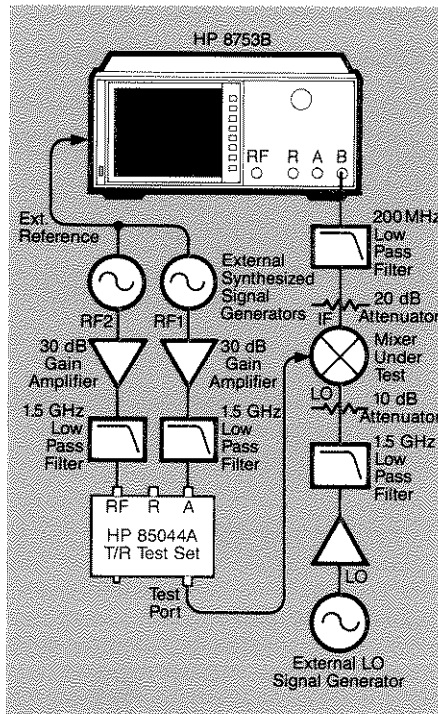

Figure 16. Block diagram for a two-tone third order intermodulation distortion (IMD) measurement.
Figure 16 shows a block diagram for a third order IMD measurement made with the HP 8753B. The filters, attenuators and amplifiers provide isolation and remove unwanted signals from the system. These are essential to accurate measurements, because signal levels as low as 60 dBc can degrade third order IMD measurements.
7. Connect the instruments as shown in figure 16, tying all time bases together (EXT REF). To minimize the effect of system distortion, it is suggested that attenuation at the mixer's IF port be chosen to give receiver input levels of  $-10$  dBm or less.